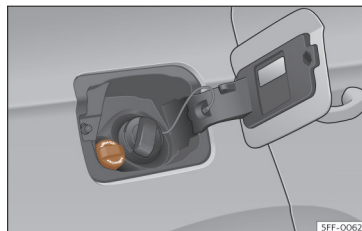

Fig. 204 AdBlue tank cap.
- Open the tank cover >>> **Fig. 204**.
- Turn the SCR tank cap anti-clockwise >>> **Fig. 204**.